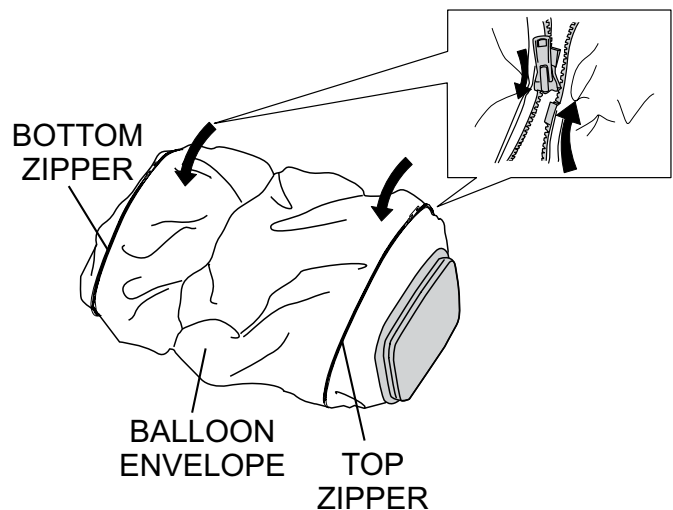

Figure 26. Zipping the Balloon Envelope
4. Zip up the zipper (Figure 26) at the top and bottom of the balloon envelope (cover).